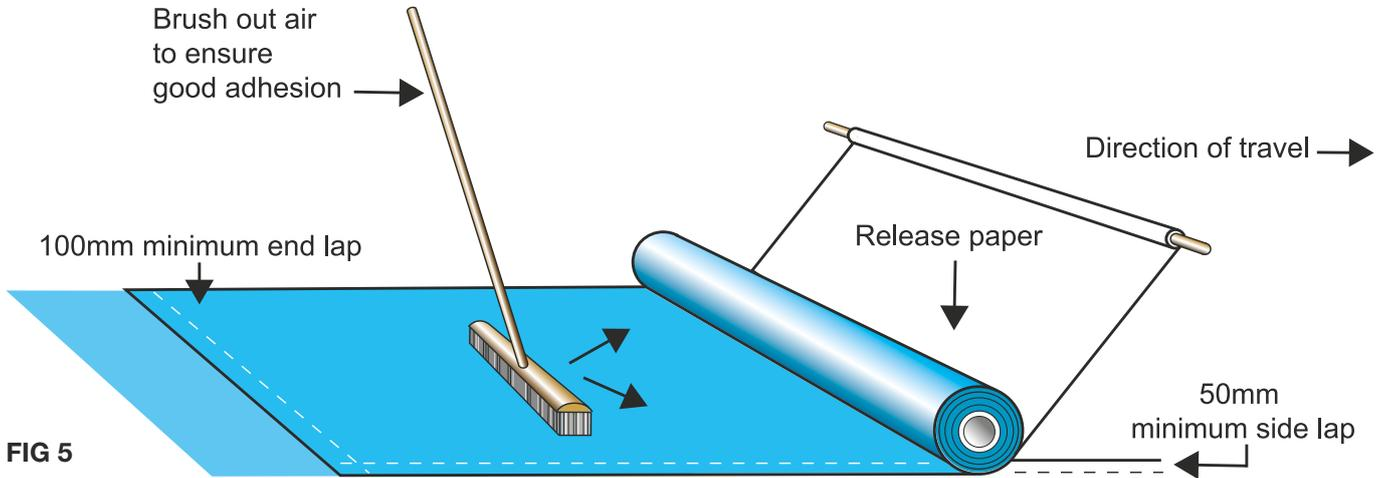

FIG 5
8. The second applicator then applies firm pressure onto the surface of the membrane to ensure good adhesion to the substrate and to avoid trapping air underneath. Normally they would use a broom to smooth the membrane down, working from the centre outwards. The applicators must avoid puncturing the membrane and the use of soft soled footwear is recommended (See Fig 5 - next page).